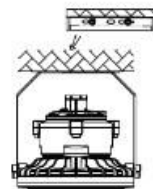

Figure 4
4. Tighten the nut on either end of the brackets (Figure 4).